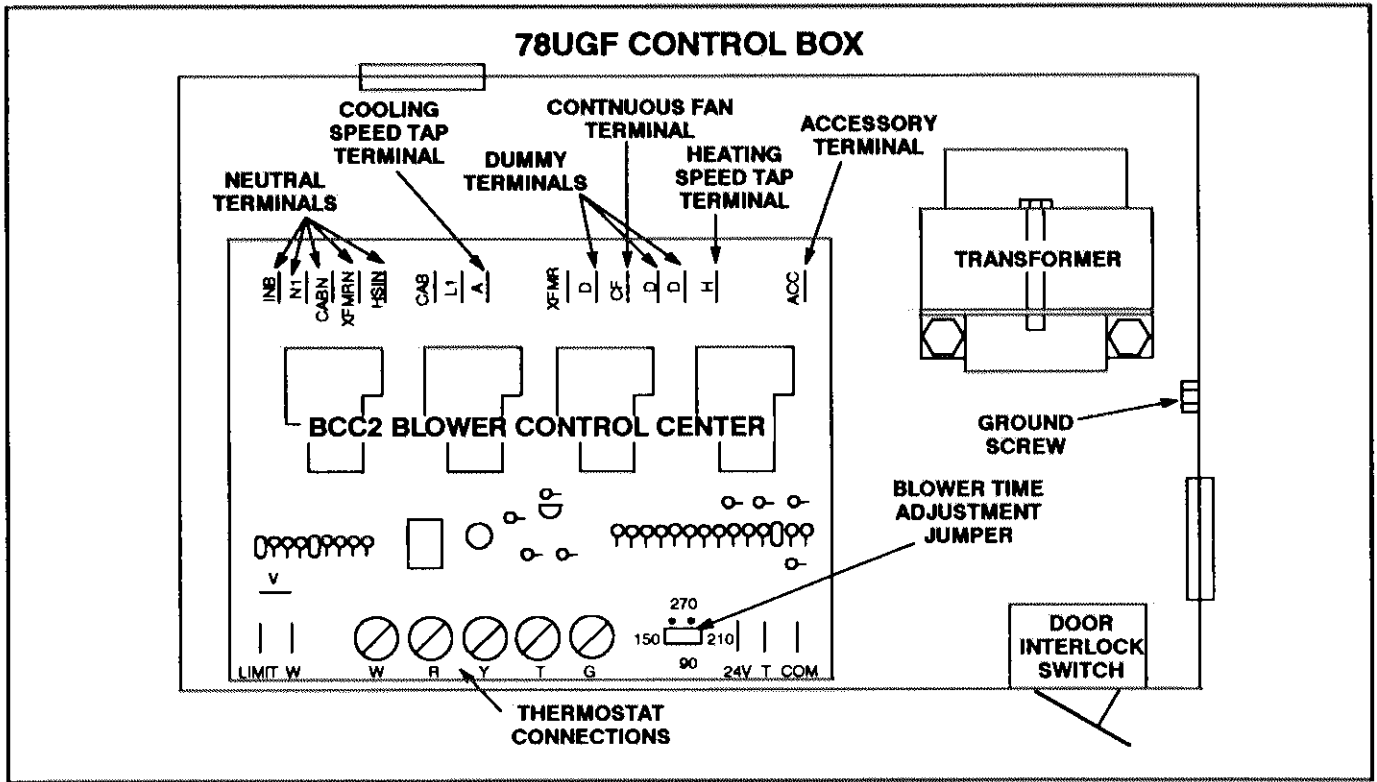
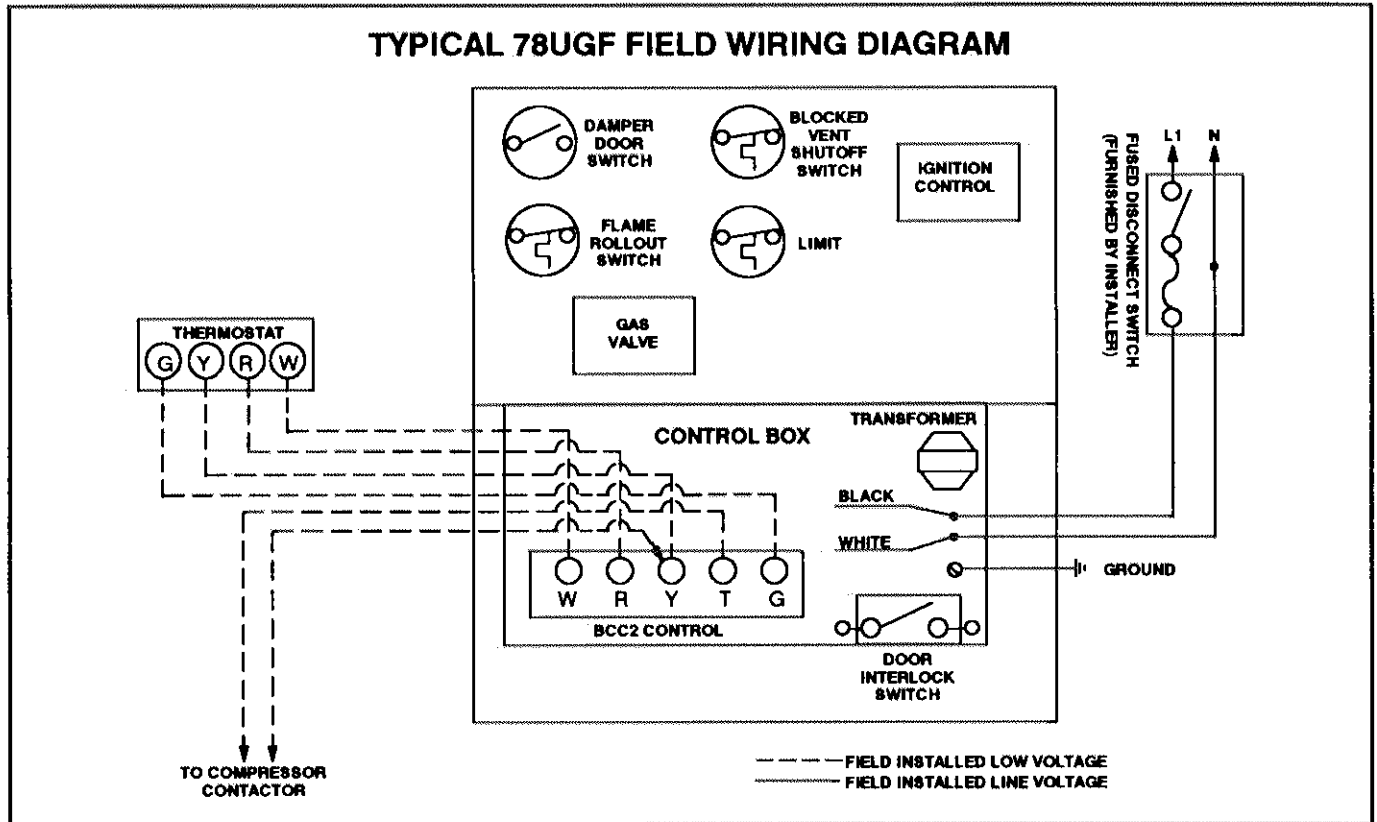
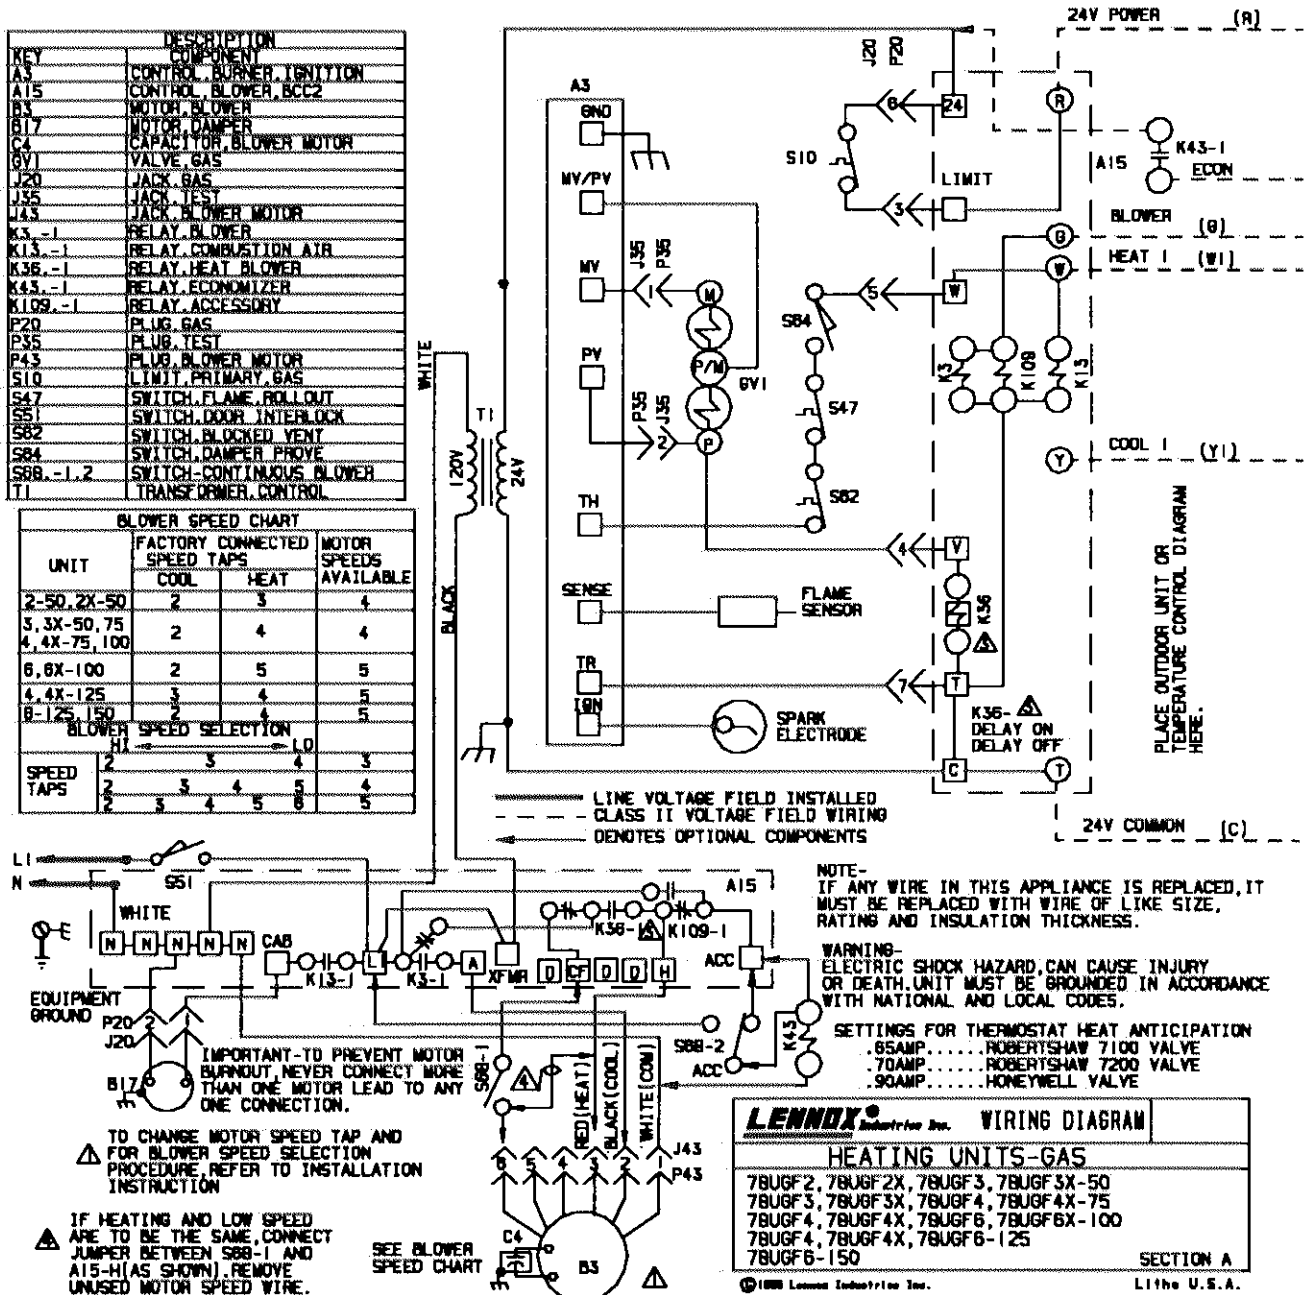

FIGURE 10
FIGURE 11
FIGURE 12
Refer to figure 10 for control box layout, figure 11 for point to point field wiring and figure 12 for schematic wiring diagram and troubleshooting.
- 6- Complete wiring connections to equipment using wiring diagrams provided with unit and in figure 12. Use 18 gauge wire or larger for thermostat connections.
- 8- A 120 volt accessory terminal (ACC) is provided on the BCC2 blower control center. Any accessory rated up to 1 amp can be connected to this terminal and the neutral leg of the accessory can be attached to any free 120 volt neutral terminal on the BCC2 blower control center. The accessory terminal is energized whenever the blower is in operation. See figure 10. A troubleshooting flowchart for the BCC2 blower control is located in figure 34.
- 9- The continuous fan (CF) 120 volt terminal is used with an optional continuous low fan kit that is available from Lennox. The kit allows the furnace blower to run continuously on low speed. The kit cannot be used on units without a CF terminal on the BCC2 board.